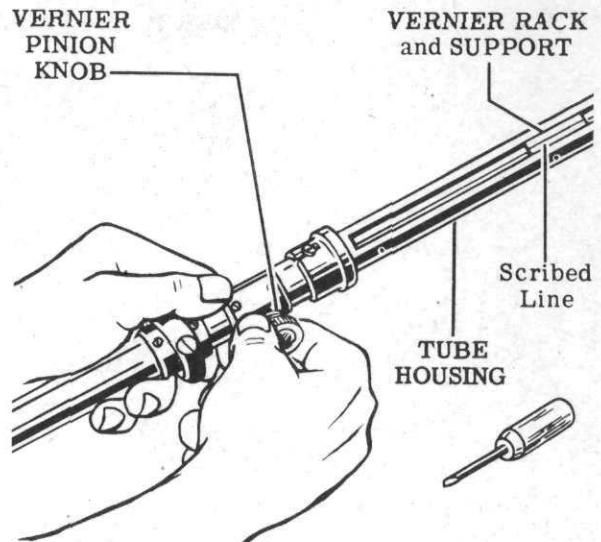

Figure 35
20. Scribe a line down the center of the vernier rack and support, exactly centered in the slot in the tube housing. See Fig. 35. Then check the travel of the vernier rack and support to insure that the scribe line remains centered in the slot for all positions of the vernier rack and support in the tube housing.